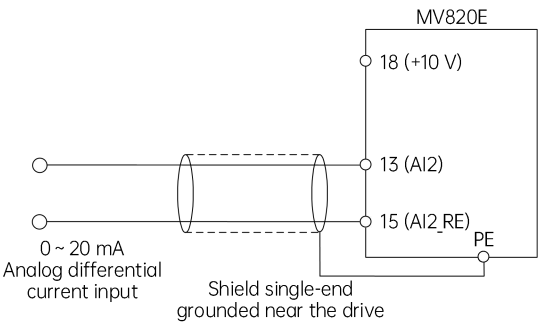
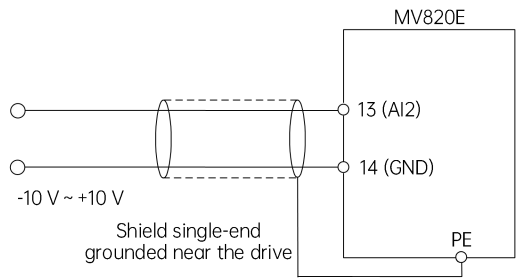
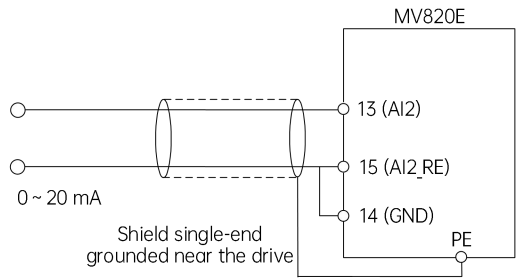

Fig. 4-6 Terminal 13 current differential input wiring
Fig. 4-7 Terminal 13 voltage single-ended input wiring
Fig. 4-8 Terminal 13 current single-ended input wiring
(2) Terminal 13 receives the analog current differential input or analog voltage/current single-ended input. The voltage or current input type can be selected through the ones place of P09.02. The wiring method is shown in Fig. 4-6, Fig. 4-7 and Fig. 4-8.